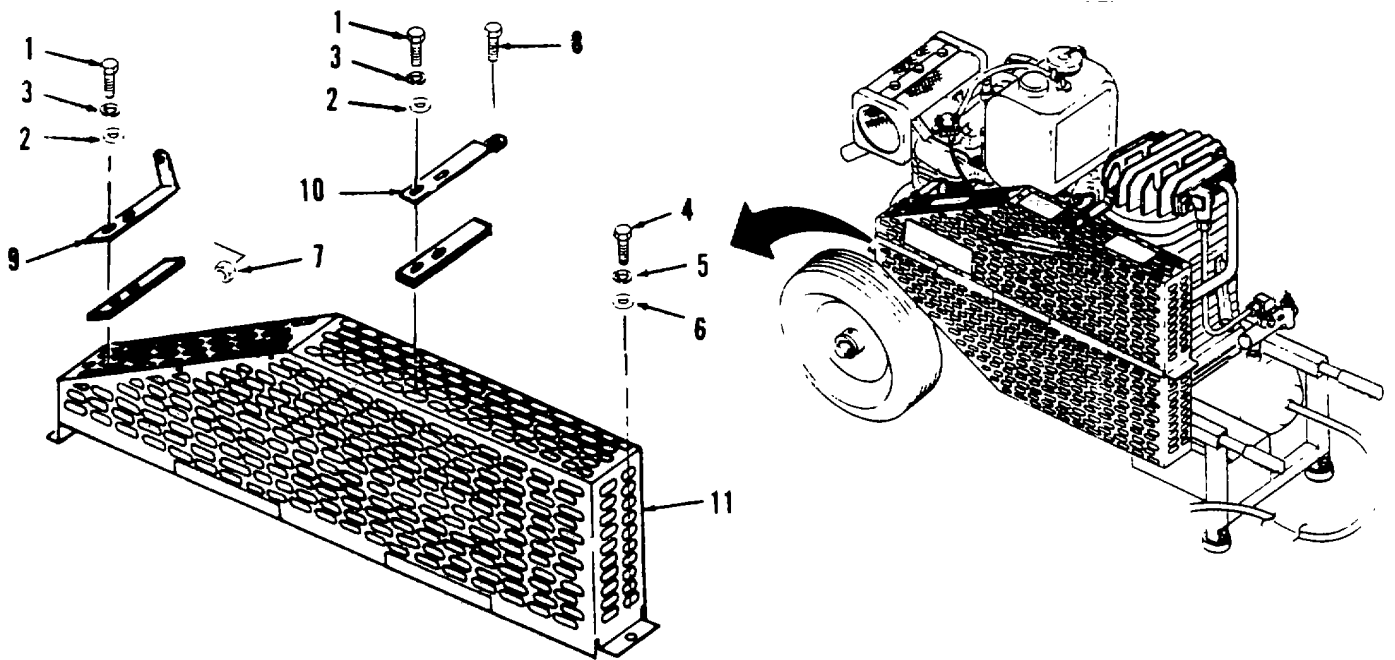
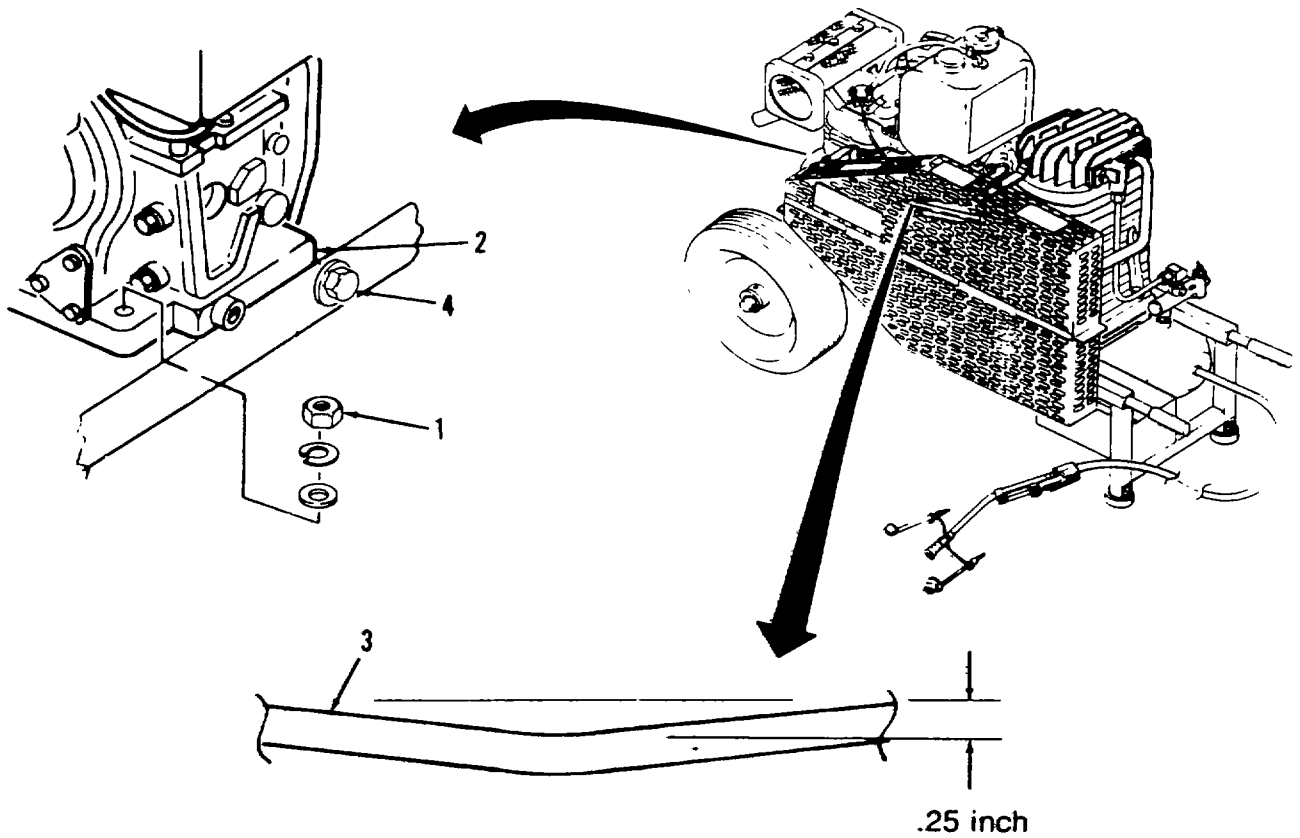

Figure 4-1. Belt Guard Removal for V-Belt Adjustment.
Figure 4-2. V-Belt Adjustment
- (1) (Refer to Figure 4-1). Remove four screws (1), four lock washers (3), and four flat washers (2).
- (2) Remove two screws (4), two lock washers (5), and two flat washers (6).
- (3) Remove nut (7), screw (8), bracket (9), and bracket (10).
- (4) Remove top of belt guard assembly (11) from unit.
- (5) (Refer to Figure 4-2). Check that the deflection of the V-belt (3) is 1/4 in. as indicated in the figure. If deflection is incorrect, change deflection by adjusting the engine take-up screw by performing the following procedures.
- (a) Loosen four nuts (1) which hold engine (2) onto chassis.
- (b) Adjust take-up screw (4) until 1/4 in. deflection is measured on the V-belt (3).
- (c) Tighten four nuts (1) which hold the engine (2) to the chassis.
- (6) (Refer to Figure 4-1). Place top of belt guard assembly (11) onto unit and install two flat washers (6), two lock washers (5), and two screws (4).
- (7) Install bracket (10), bracket (9), screw (8), and nut (7).
- (8) Install four flat washers (2), four lock washers (3), and four screw (1).